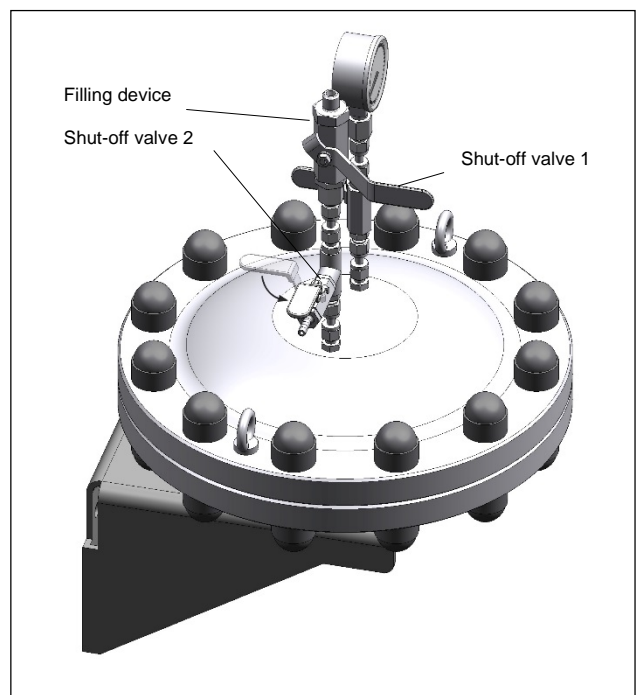

Fig. 21
- In case of the special steel type the shut-off valve 1 (see Fig 21) is to be opened before gas is filled and with connected gas supply. When the pulsation damper was prestressed the shut-off valve must be closed immediately. The shut-off valve 2 may only be operated for bleeding gas and must remain closed during filling and operation.